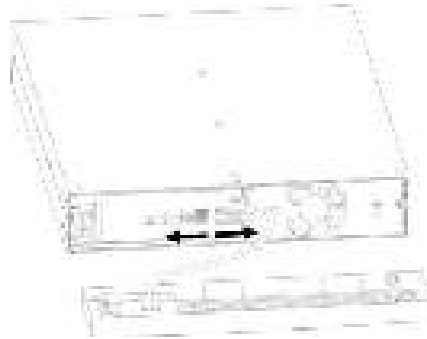

Figure 25: Disconnect the battery connector
2. Disconnect the battery connector (see Figure 25).